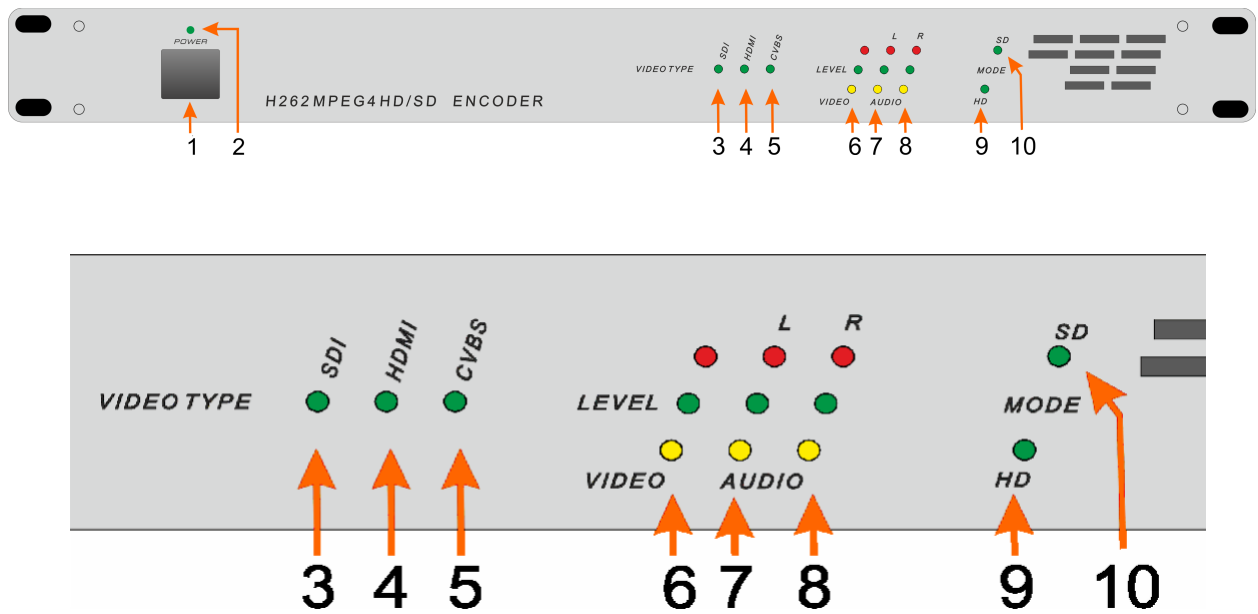

Fig.1.1
- Switch on Power (1, Fig.1.1).